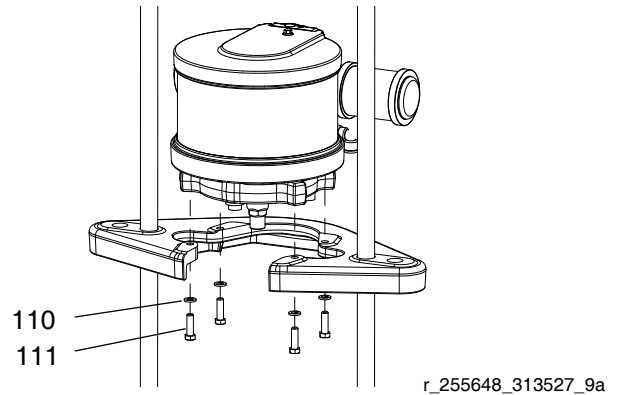

Fig. 25: NXT 200-1800 with 55 Gallon Platen
- b. For *NXT 200-1800 with 55 gallon platen (D200 3 in. and D200s 6.5 in. supply units)*: Remove screws (111) and washers (110) securing motor to mounting plate. See FIG. 25.
2. For *NXT200-1800*: Attach motor to mounting bracket with screws (111) and washers (110). See FIG. 25 on page 27.
- b. Connect air hose to motor. If using a remote DataTrak, connect electrical connections to the air motor. See FIG. 25 on page 27.
3. Connect air hose to motor. If using a remote DataTrak, connect electrical connections to the air motor. See FIG. 25 on page 27.